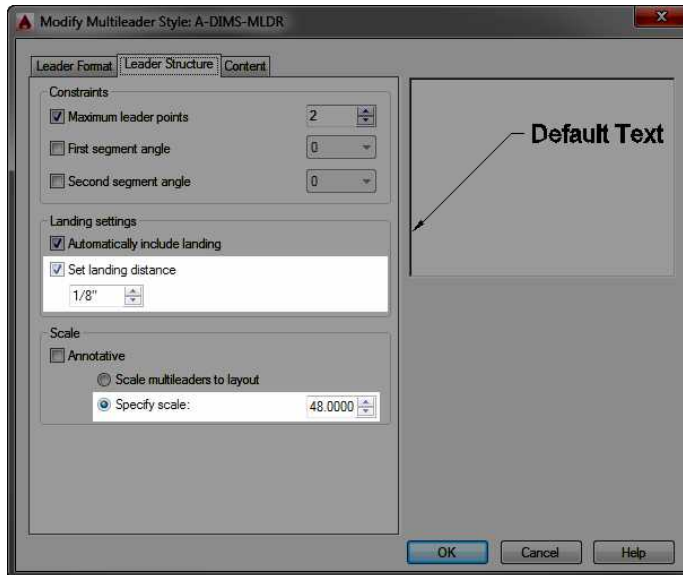

FIGURE 12.37: The Leader Structure tab in the Modify Multileader Style dialog box
6. Make sure the Set Landing Distance option is checked, and then enter 1/8" (3.5) in the text box (see Figure 12.37).
7. In the Scale group, make sure the Specify Scale radio button is selected and then click in the text box and enter 48↵ (50↵), as shown in Figure 12.37.